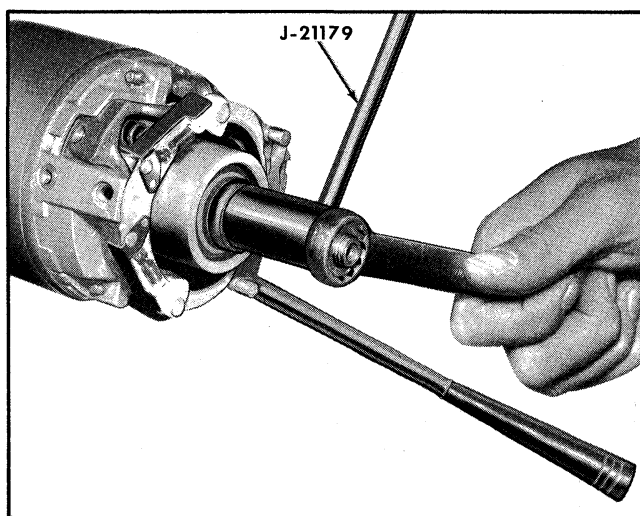

Fig. 9-17 Seating Spacer
24. Install the steering wheel nut and turn down until window (cut out) in tool J-21179 is in line with upper edge of snap ring groove (.002") (Fig. 9-17).